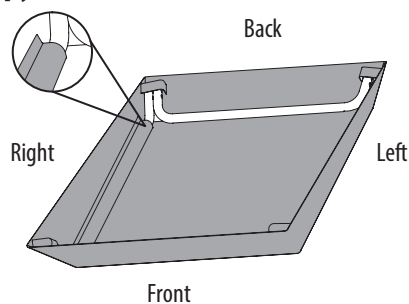

Figure 6
1. With the assembled frame face down, wrap the canopy (Item #16) over the four corners, and velcro the inside to the tubes. See Figure 6.